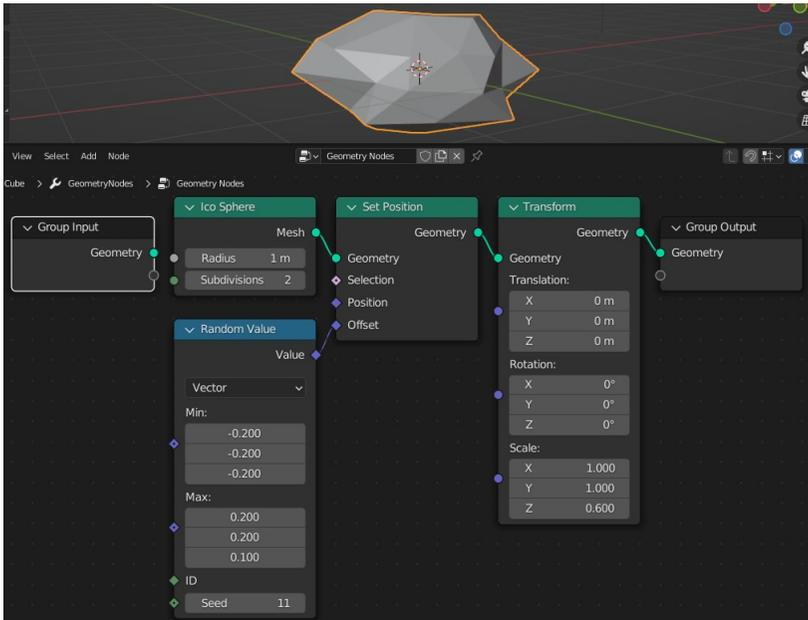

Figure 14-1 Using geometry nodes to create a rock
4. You are now going to add some nodes to make the regular ico sphere a little more random as shown in Figure 14-1. First of all add a new node by selecting **Add ▶ Geometry ▶ Set Position** and drop it onto the output connector from the ico sphere node. Notice that there are three other diamond shaped inputs to the new node which indicate that they use a different type of data from the circular inputs and outputs. The diamond connections relate to a finer level of detail within the geometry, in this case each vertex in the mesh can be selected, positioned or offset
6. In Figure 14-1 you can see that I increased the ico sphere subdivision to 2. Try doing that then change the Seed value in the random value node to see the variety of results. A better alternative is to return the ico sphere subdivisions to 1 then insert a new subdivision surface node after the set position node using **Add ▶ Mesh ▶ Subdivision Surface**.